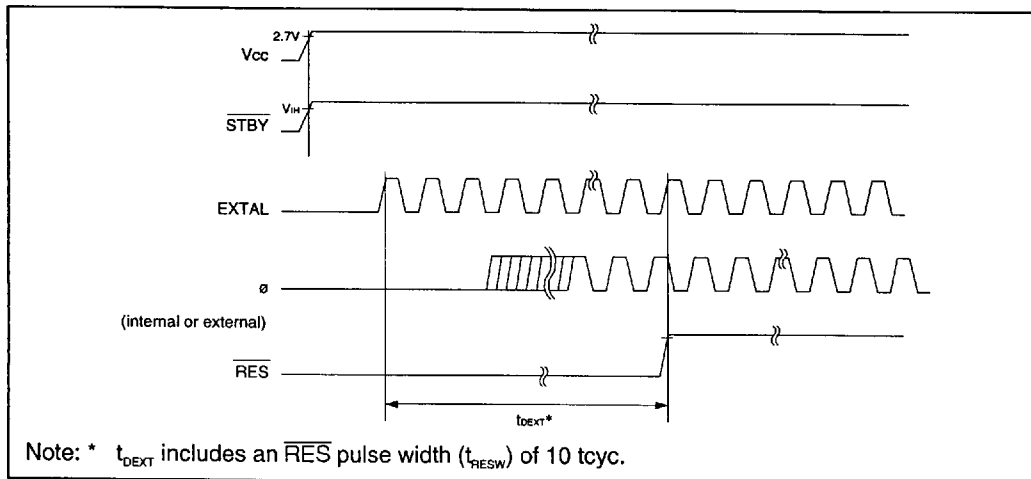

Figure 22-22 External clock output delay Timing
22.3.10 External Clock Output Timing	Figure 22-22